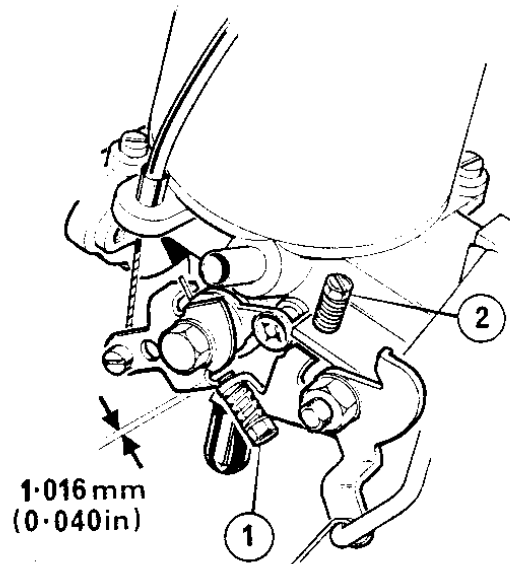

Figure 4 Slow running and fast idle screws
- Turn the throttle adjusting screw (**Figure 4**) clockwise to increase the speed, or anti clockwise to decrease until the desired idling speed is obtained.
Pull out the mixture control (choke) until the linkage is just about to move the jet. Start the engine and adjust the fast idle screw (**Figure 4**) to give an engine speed of 2,250 rpm. Push the choke fully in and check that there is a clearance of 1.016 mm (0.040 in) between the end of the screw and the cam. The choke cable should have a clearance of 1.6 mm (1/16 in) free movement before it starts to pull on the cam lever.